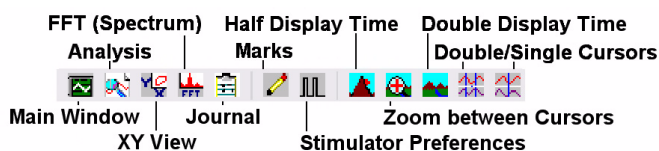

Figure NB-4-5: The *LabScribe* toolbar.
- 8 Click the **Double Cursor icon** (Figure NB-4-5 on page NB-4-4), so that two blue vertical lines appear over the recording window.